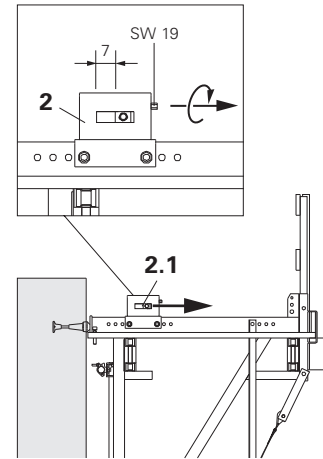

Fig. B2.17
1. Move back the sliding block (2.1) in the adjusting unit (2), SW 19, (Fig. B2.17).